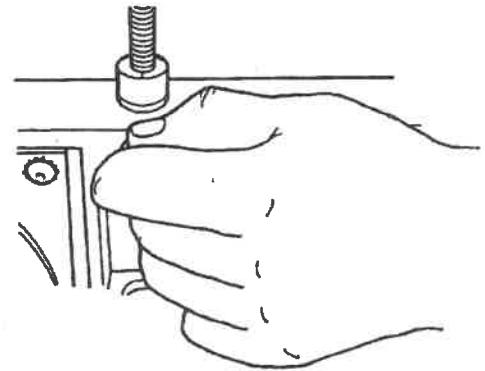

Fig. B-7
6. Loosen the knob (23) located below the adjuster nut (22), as in Fig. B-7.